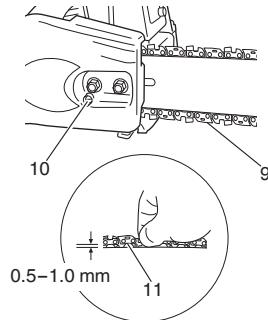

Fig. 5
7. Raise the bar end, and tighten the chain (9) by turning the tension adjustment bolt (10) clockwise. To check proper tension, lightly lift up the center of chain and there should be about 0.5 – 1.0 mm clearance between bar and edge of drive link (11). (Fig. 5)